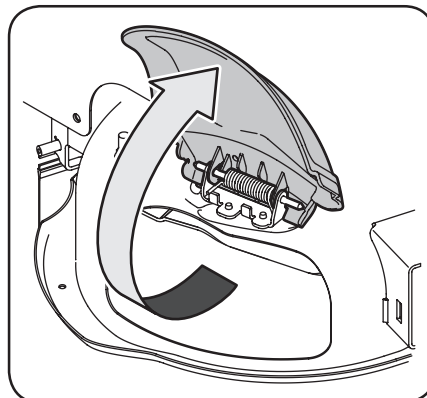

Figure 2-10
2. On the side of the mowing deck, lift the mulch plug. See Figure 2-10.